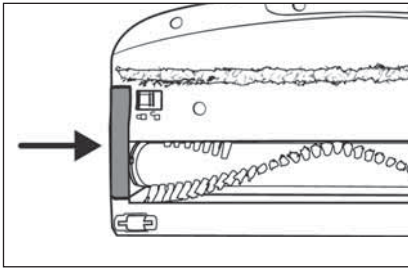

Fig. 27
- 6) Put the rotary brush holder **19** back into the floor brush **21**. Push it down until it audibly clicks into the floor brush **21** (see Fig. 27).